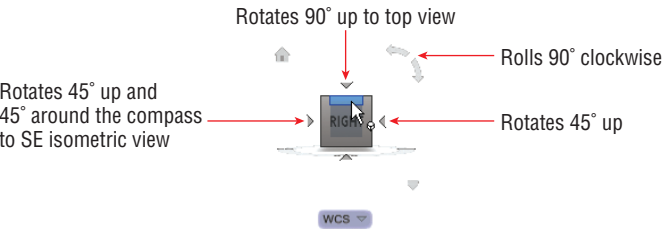

FIGURE 16.11 Additional ViewCube controls
4. The ViewCube rotates with the view change. Hover the cursor over each of the elements on the right face and observe there are four corners, four edges, plus the right face itself that highlights in blue. In addition, there are four arrows facing the cube and two curved arrows in the upper right. Each of these interface elements rotates the view in a specific direction, as indicated in Figure 16.11.